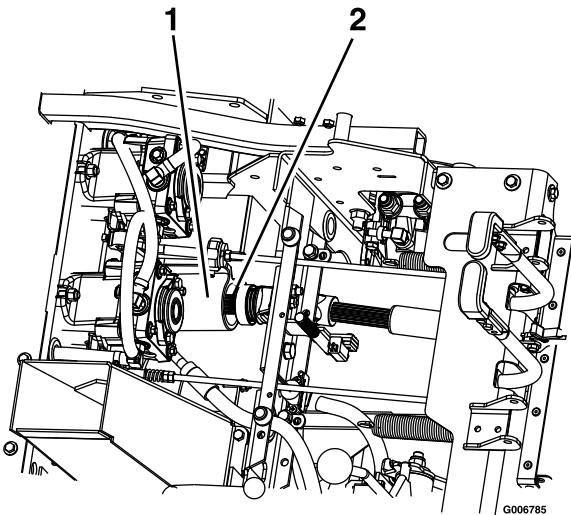

Figure 73
9. Unlatch the seat and disconnect the drive shaft using the quick coupler at the jackshaft (Figure 73). Refer to Unlatching the Seat (page 21)
5. Install the drive shaft onto the jackshaft (Figure 73).